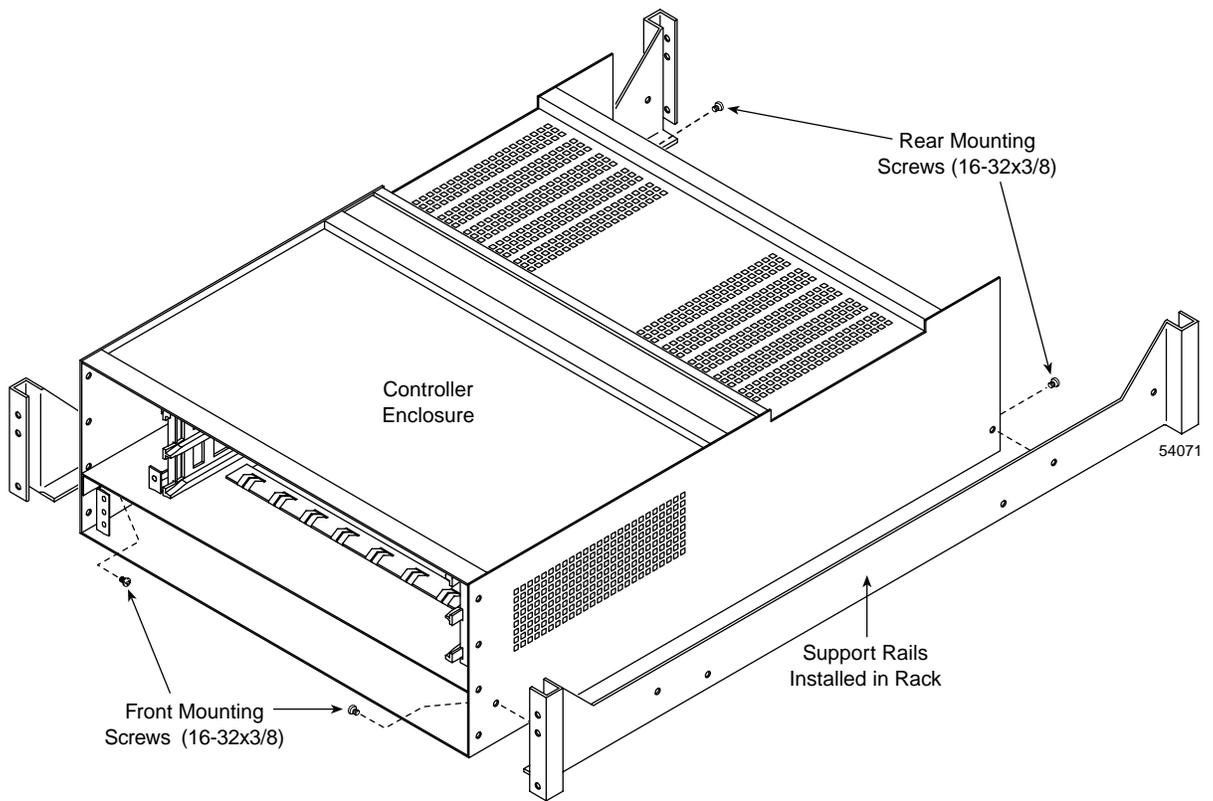

Figure 3-8 Removing the Controller Enclosure from the Rack
3. Remove mounting screws on the front and rear of the enclosure (Figure 3-8). Pull the enclosure out of the rear of the rack. Set it on a level, dry surface.
2. From the rear of the rack, slide the controller enclosure into the rack along the support rails (Figure 3-8).
3. Fasten the rear and front mounting screws (Figure 3-8).